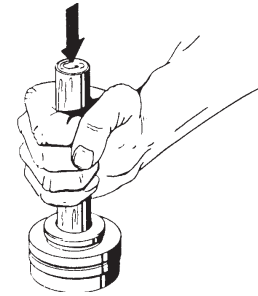

Figure 4-2
- If the seal seat (#12.5) must be reused, use a wooden dowel sized to fit through the hole in the seal cup to tap it out. (refer to figure 4-2) Ceramic seal seats are particularly easy to damage. Normally, always replace the seats when servicing the pump.